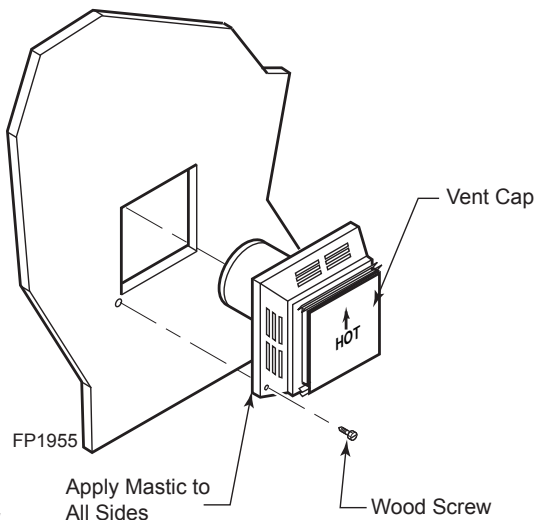

**Figure 17 -
5. Apply a bead of non-hardening mastic around the outside edge of vent cap. Position the vent cap in the center of hole on the exterior wall with the word "UP" on the vent cap facing up. Insure proper clearance of 1" to combustibles is maintained. Attach the vent cap with four wood screws supplied. *Figure 17*
1. Establish vent hole through the wall. Page 16, *Figure 17*.